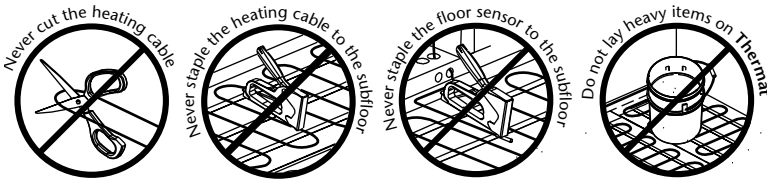

Fig. 1.3
- Shorten or alter any part of the heating cable (fig. 1.3);
- Staple heating cable or floor sensor end to the subfloor (fig. 1.3);